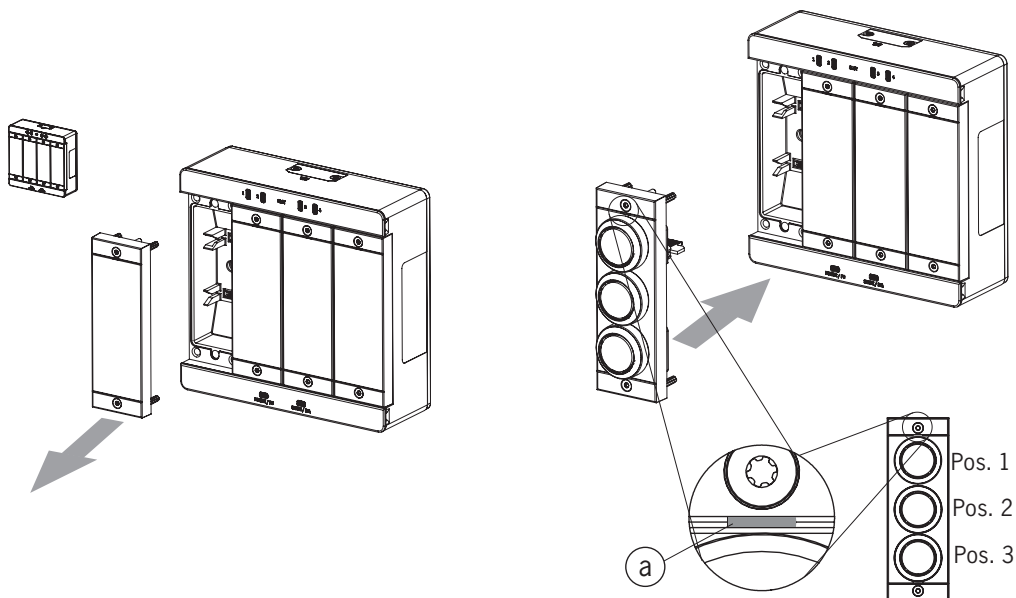

Fig. 6: Mounting submodule
- Pay attention to the alignment of the submodule. See marking (a) in Fig. 6: *Mounting submodule*. Submodules can also be installed rotated by 180°. The marking (a) always indicates the first position to be equipped. This means the position of pushbutton S1 in the example below.